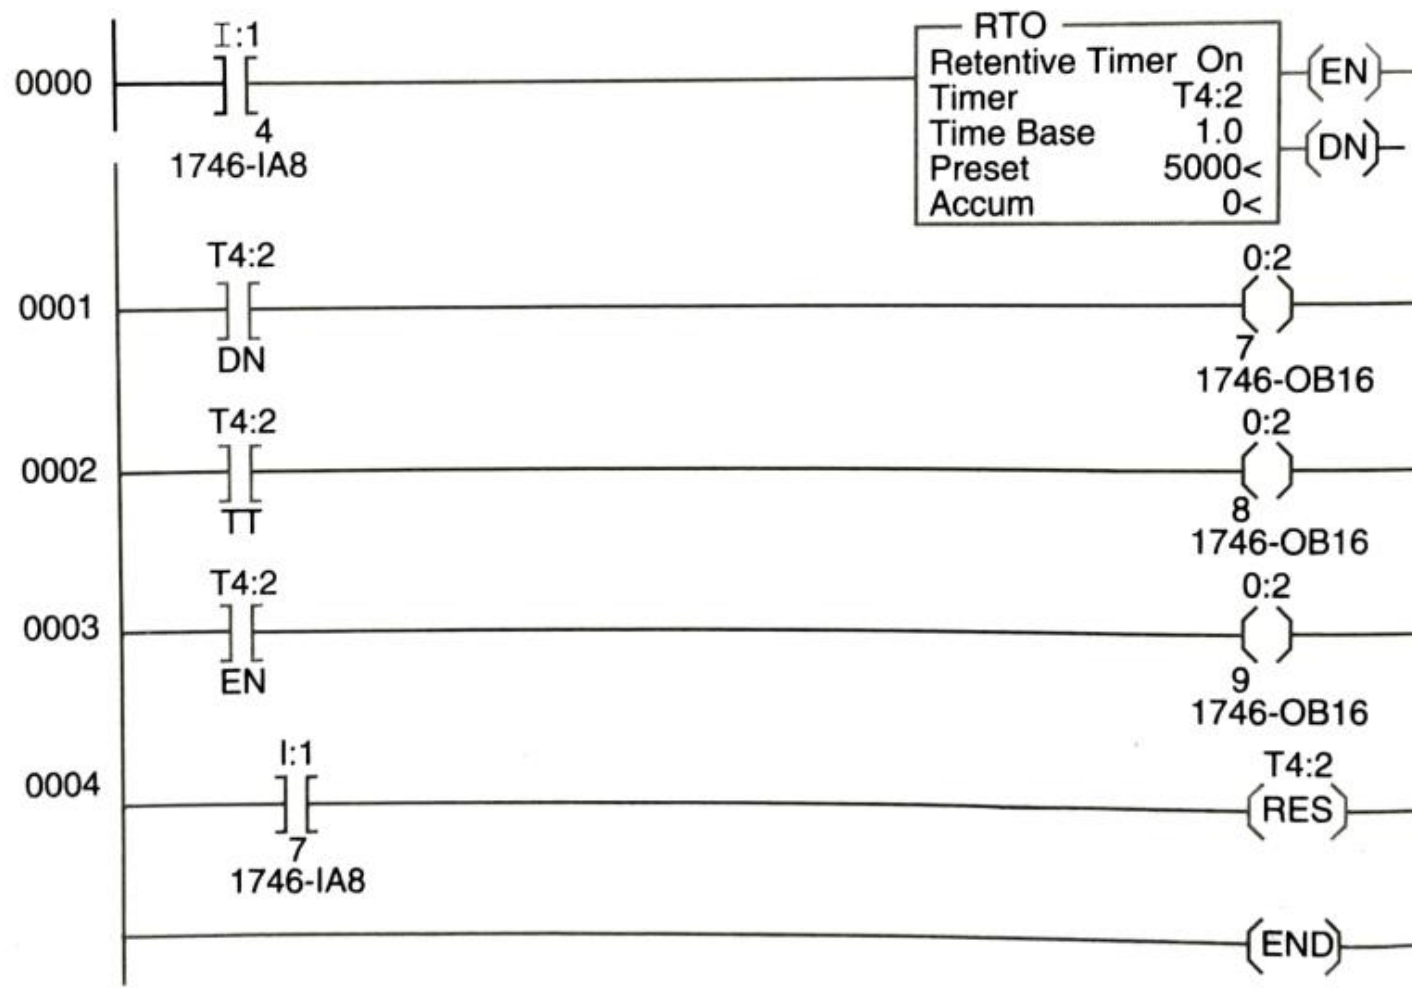

Figure 16-8 SLC 500 retentive timer and its associated ladder rungs.
- When the done bit is set, the timer- timing bit is reset as well. In Figure 16-8, the timer-timing bit will be true, or set, when- ever input 1:1/4 is true and as long as the accumulated value is less than the preset value of 5,000 seconds.